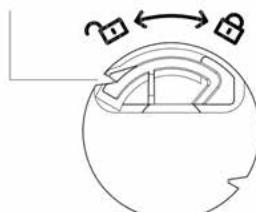
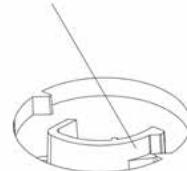

Figure 3
Figure 4
4. Take the appliance and turn it upside down, place the inverted base on top and align its slots with the locating pins on the appliance (fig.2), turning the base on the appliance towards the closed lock icon (fig.3). When removing, press the device buckle to release the base and rotate the base itself in the direction of the open lock icon, then remove (Fig.4).